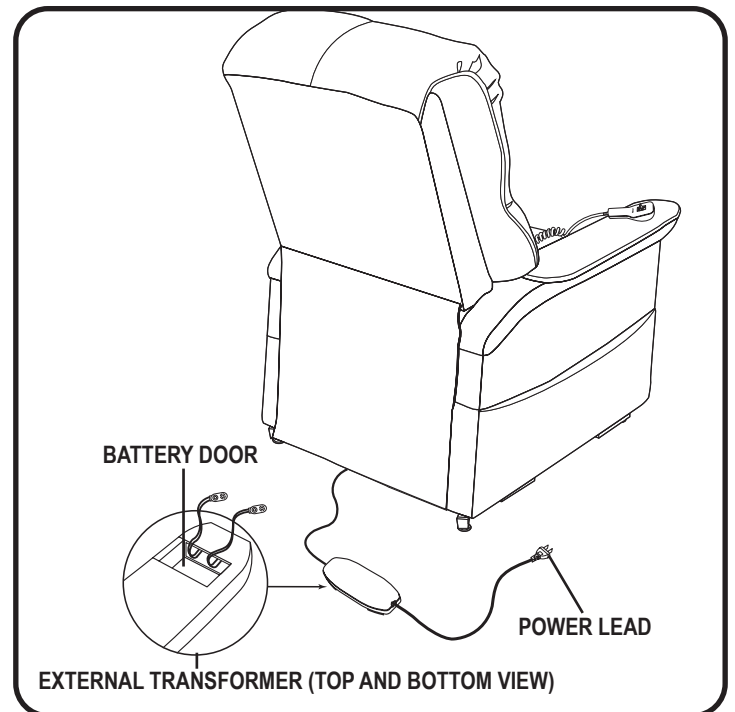

Figure 4.3 Power Lift Recliner Battery Backup Location
3. Install two 9V batteries in the external transformer (**fig. 4.3**).
- Plug the power cord directly into the electrical outlet. **Do not use an extension cord! See fig. 4.3.**